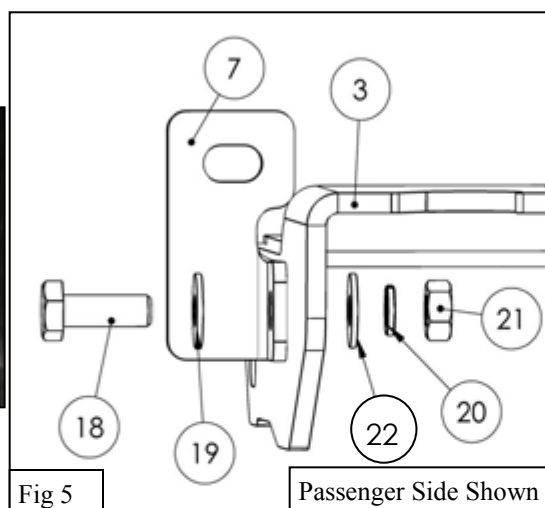

Fig 5
5. Then loosely preassemble the Lower Mounting Bracket (2-3) and Lower Support Strap (6-7) with the provided M10 Hardware. See **Figure 5**.